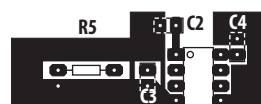

Figure 26. Top Layer of Printed Circuit Board Layout.
2. Exact offset value is dependent on layout of external bypass capacitors. The offset value in the data sheet corresponds to Avago's recommended layout (see Figures 26 and 27).
In addition to affecting offset, the layout of the PC board can also affect the common mode rejection (CMR) performance of the isolation amplifier, due primarily to stray capacitive coupling between the input and the output circuits. To obtain optimal CMR performance, the layout of the printed circuit board (PCB) should minimize any stray coupling by maintaining the maximum possible distance between the input and output sides of the circuit and ensuring that any ground plane on the PCB does not pass directly below the HCPL-7850. Using surface mount components can help achieve many of the PCB objectives discussed in the preceding paragraphs. An example through-hole PCB layout illustrating some of the more important layout recommendations is shown in Figures 26 and 27. See Applications Note 1078, Designing with Avago Technologies Isolation Amplifiers, for more information on PCB layout consideration.